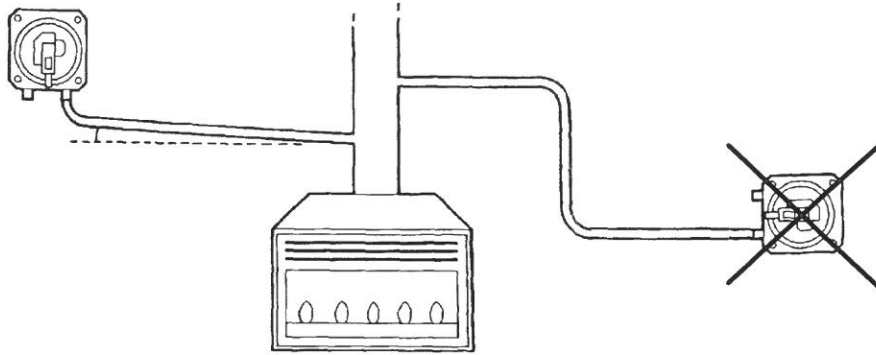

Fig. 3. Condensate drainage
- Provide condensate drainage by gradually sloping tubing towards the exhaust pressure inlet (fig. 3.)